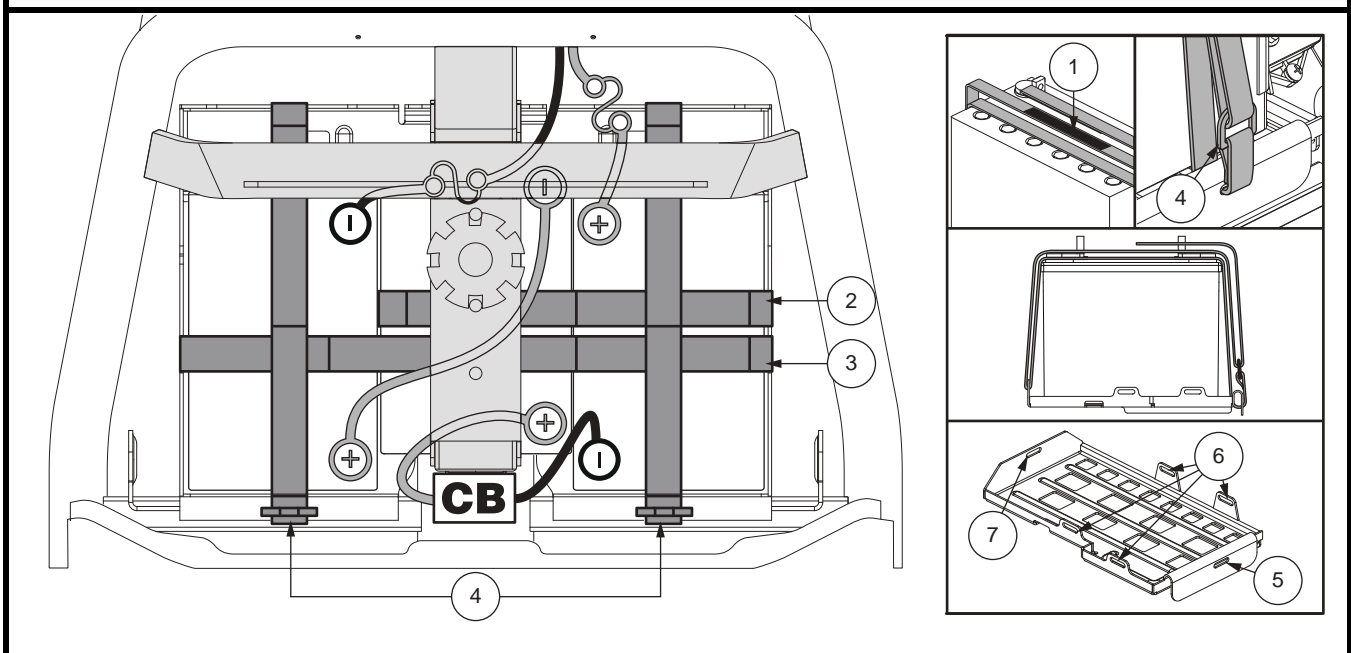

Figure 14. Battery Securement
**NOTE:** Use battery straps to secure batteries in the battery wells. Please refer to figure 14 for battery strap installation procedures.